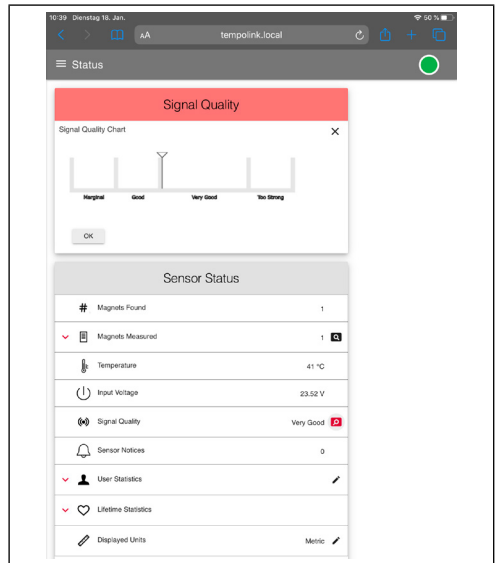

Fig. 25: Graphical display of the signal strength
- **Too Strong:** Due to distortions incorrect results are possible when measuring the position. The magnifying glass on the right of the magnet provides a graphical display of the signal quality (Fig 25). Only the 1. position magnet is taken into account for a multi-position measurement.